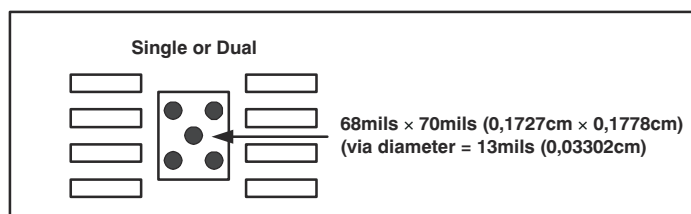

图 8-4. PowerPAD Integrated Circuit Package PCB Etch and Via Pattern
2. Prepare the printed circuit board (PCB) with a top-side etch pattern, as shown in 图 8-4. Use etch for the leads as well as etch for the thermal pad.